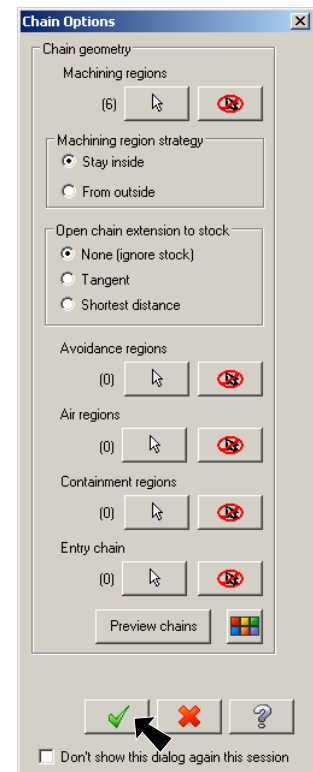

Fig. 62
Step 6. Click OK in the Chain Options box, **Fig 62**.